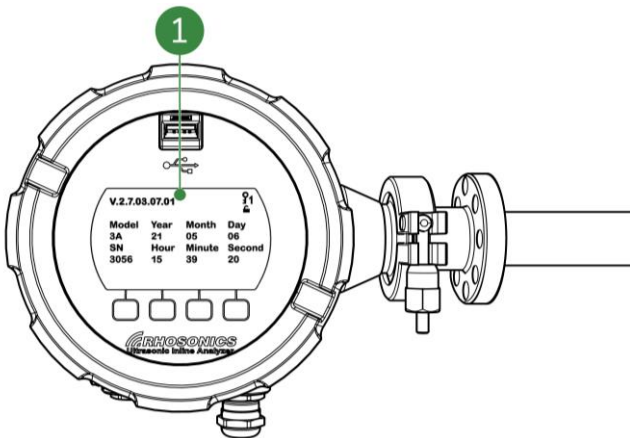

Figure 6-5: Software version
2. When the display is powered up, the software version displays in the top left corner (Figure 6-5, pos. 1).